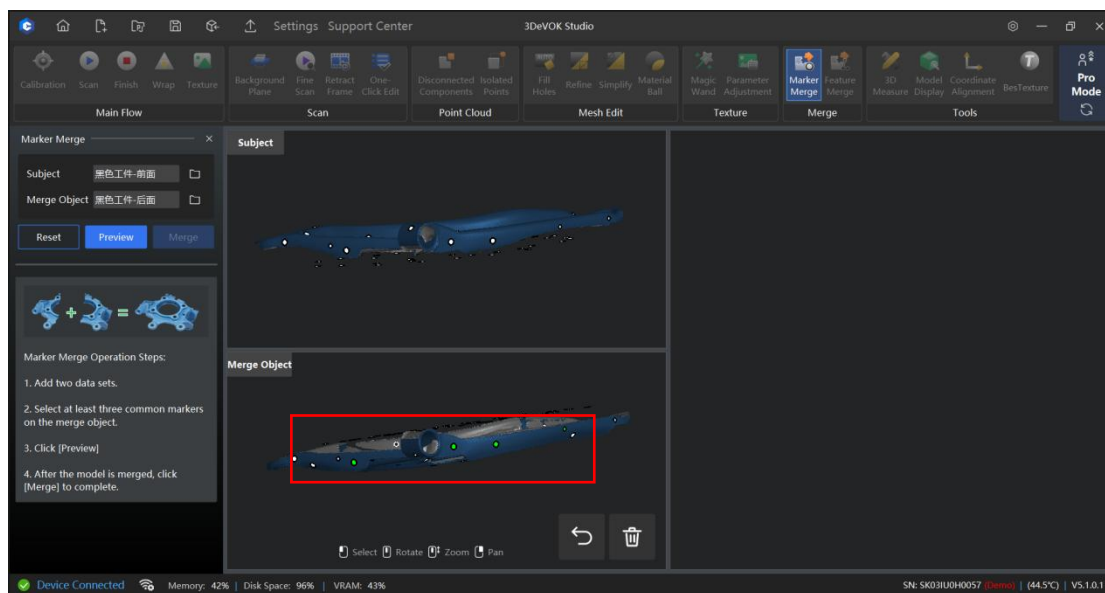

Figure 9-8 Select Common Markers
4. In the "Merge Object" Interface below, Left click to select at least four pairs of common markers with lasso shared with the "Main Object" model above, as shown in Figure 9-8.